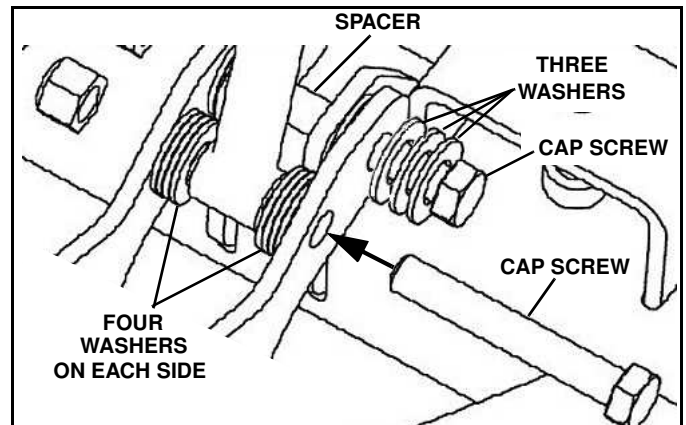

Figure 1-27
- g. Insert 3/4" x 5" cap screw and two washers (p/n 98009030) through left bracket, two washers, A-frame lug, spacer, lug, two washers and right bracket. (See Figure 1-27).
- h. Insert 3/4" x 5" cap screw through left bracket, four washers, lift cylinder rod end, four washers and right bracket. (See Figure 1-27).